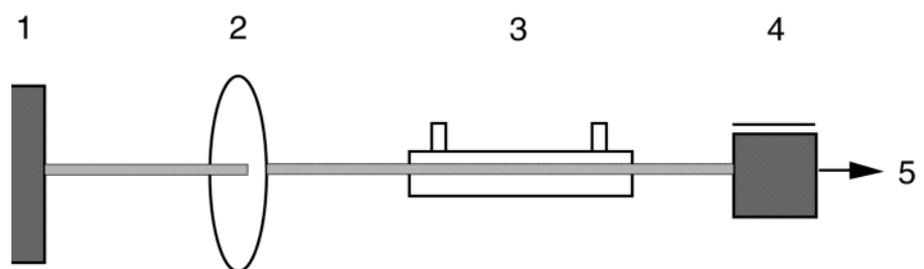

Figure 22 Schematic of the IRIA measurement principle; Legend Table 1
The measurement principle of the IRIA (see Figure 22) is based on the infrared absorption method. A heated filament (1) is the radiation source. The infrared radiation passes through a filter wheel (2) which allows through
Table 1 Legend to Figure 22